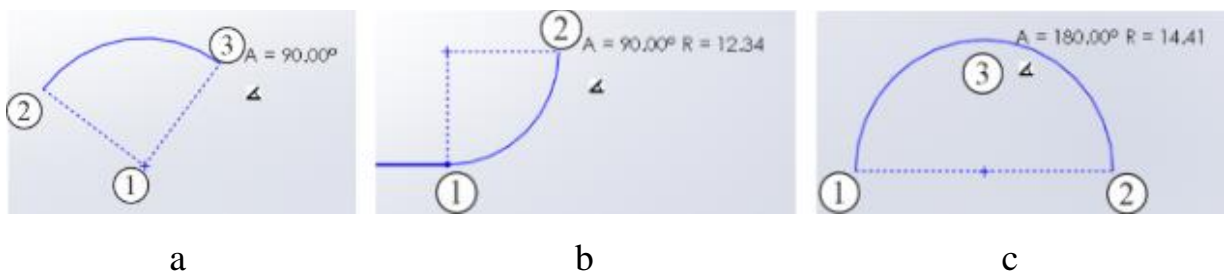

Fig. 2.6 – Methods of constructing arcs
1. **Centerpoint Arc:** Specify the coordinates of the center and one of the end points, and then fix the arc angle (the third point) (fig. 2.6, a).
2. **Tangent Arc:** This command can be applied to the endpoint of an existing object (fig. 2.6, b). After its execution, a Tangent relation is automatically established between the objects.
3. **Three Point Arc:** Requires specifying two end points of the arc, and by moving the third point, the radius value is set (fig. 2.6, c).